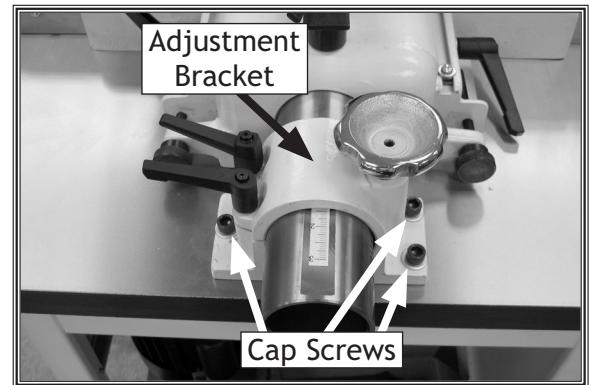

Figure 8. Fence housing assembly installed on table.
1. Secure the adjustment bracket portion of the fence housing assembly to the table with the three cap screws and washers, as shown in **Figure 8**.